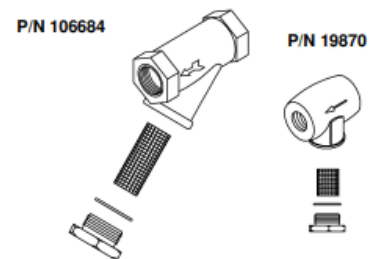

Figure 3-11, Water Strainer Assembly
- vi. A 40 or 50-mesh water strainer (dirt filter) of one of the types and construction illustrated in Figure 3-11, Cleveland Range part number 106684 or 19870 is supplied with the unit and should be installed where indicated in the plumbing layout.